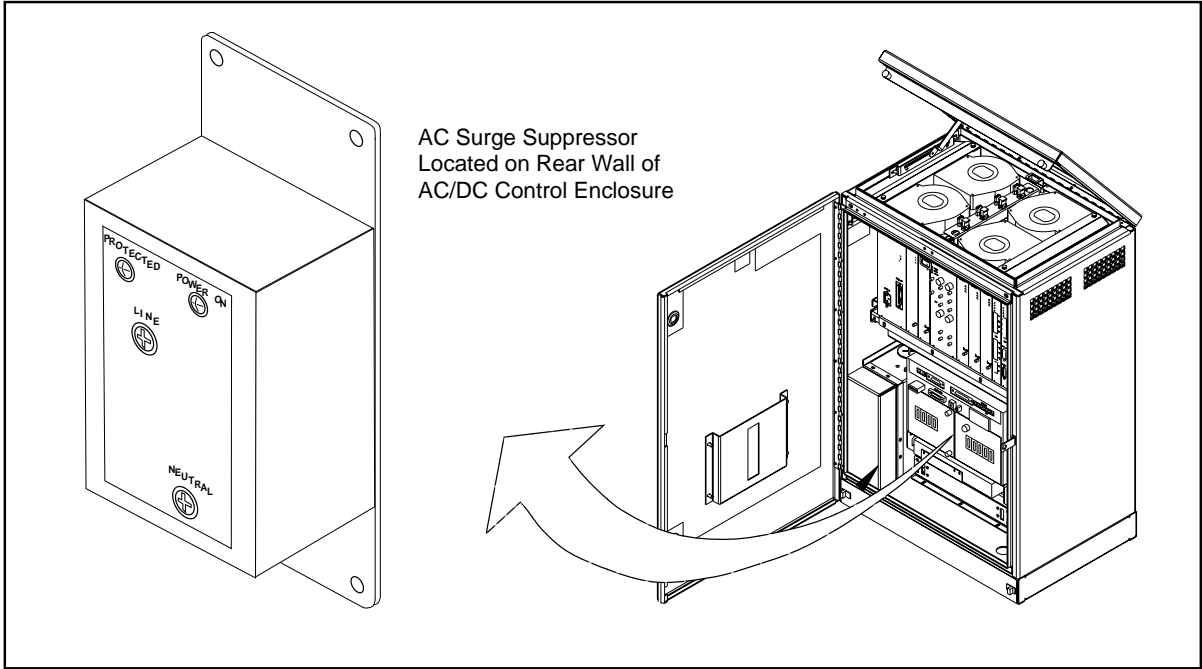

Figure 5-27. AC Surge Suppressor Assembly
- 5. Open the front of the AC/DC Distribution Box and locate the AC Surge Suppressor on back wall. See Figure 5-27 on page 5-53.